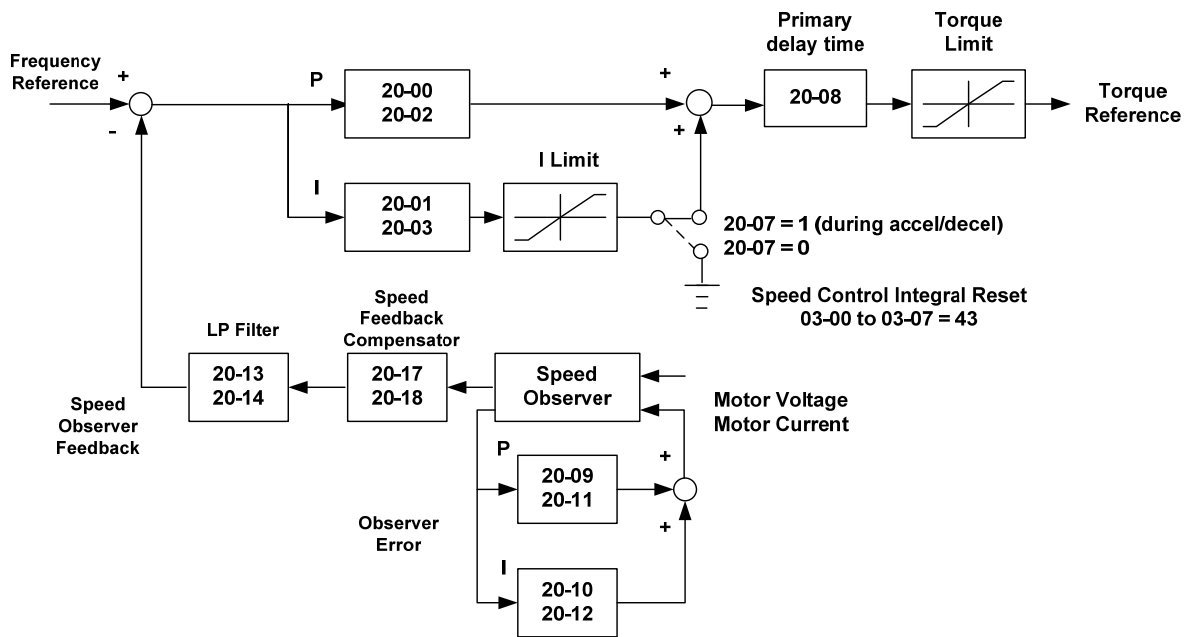

Figure 4.4.114 ASR block diagram (SLV mode)
2. Integral control enables the motor speed to reach its target speed as soon as possible, but it may result in over or undershoot, as shown in Figure 4.4.114 & 4.4.115.